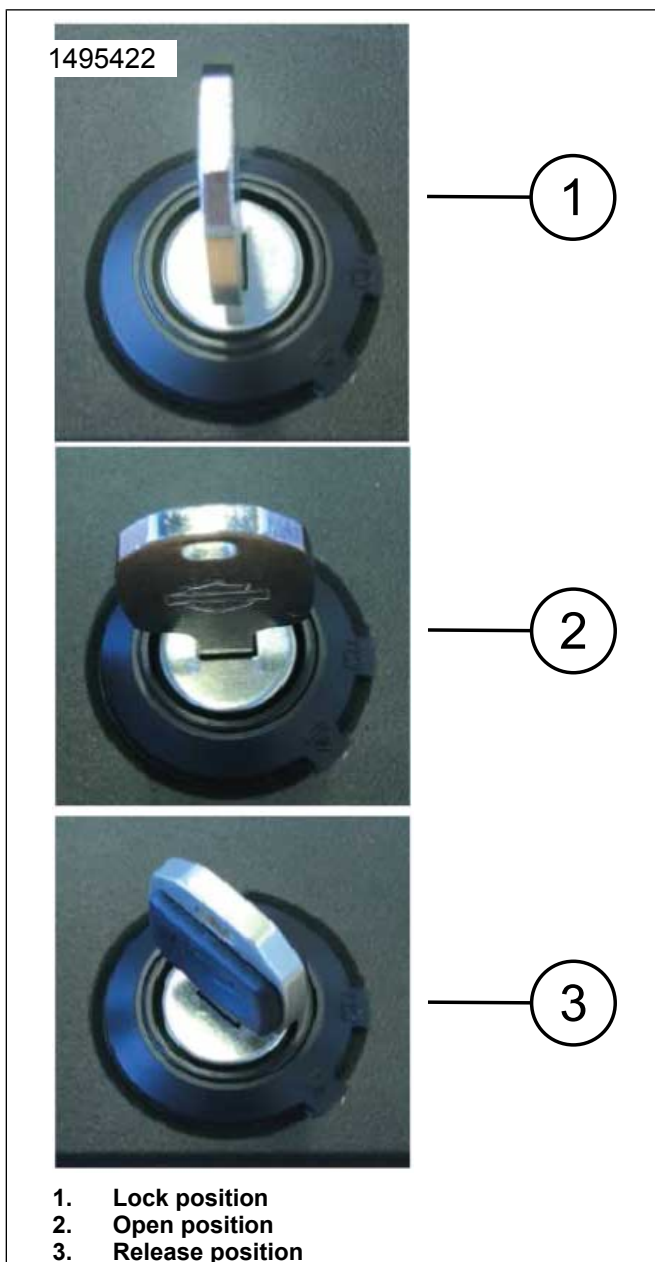

Figure 11. Lock Positions (typical)
- See Figure 11. Once lockset is installed, key can be removed in position 1 or 2.